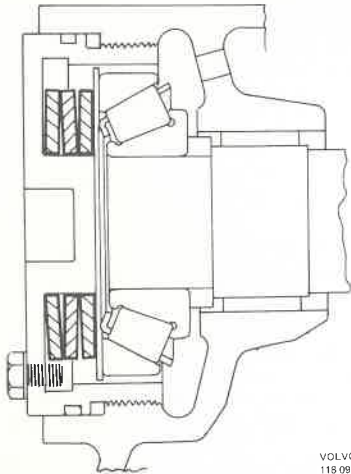

Fig. 92-30. Location for washer
3. Replace the O-ring on the cover. Place the new washers in the cover, noting their interlocation, see Fig. 92-30.